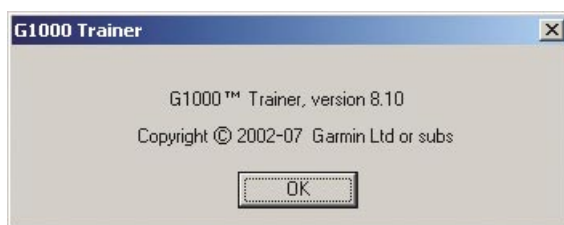

Figure 13 Copyright and Software Version Information
- About – provides copyright and software application version information (Figure 13).